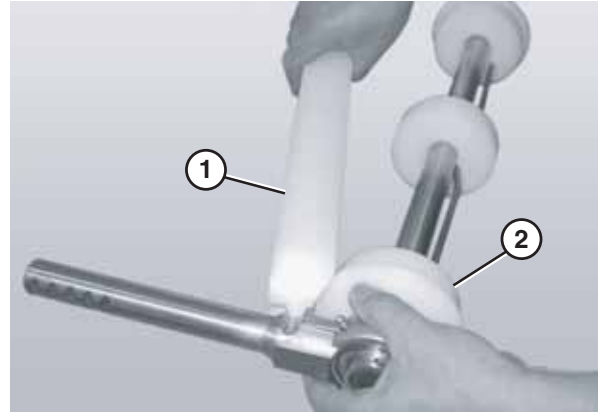

Figure 80
3. Attach the flanged pucks (**Figure 80, item 2**) and bearing shaft assemblies to the idler shaft.
4. Attach the guard bar (**Figure 80, item 1**).